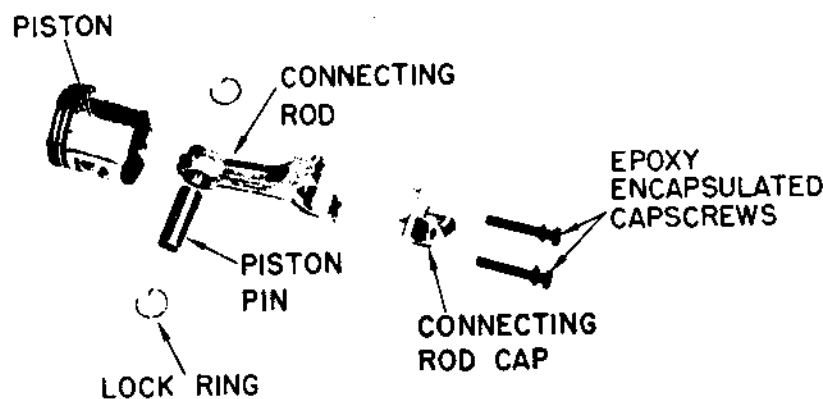

Figure 3-14. Connecting Rod, Piston, and Pin
b. Match mark and disassemble pistons, pins, connecting rods, and caps. (See figure 3-14.)